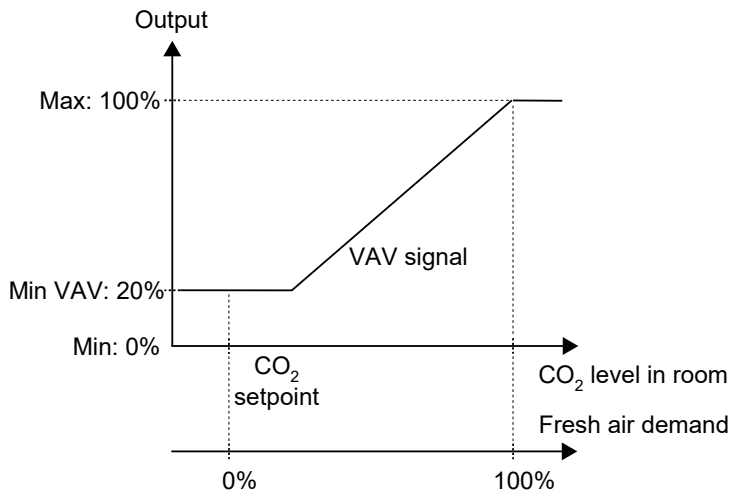

Figure 2-43 CO2 control behaviour.
*Figure 2-43* illustrates the control behaviour for CO2 control when a minimum limits is set for the VAV output signal.